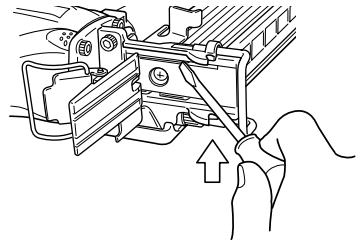

Fig. 9
- (3) Remove the jammed staple with a slotted-head screwdriver. (See Fig. 9)